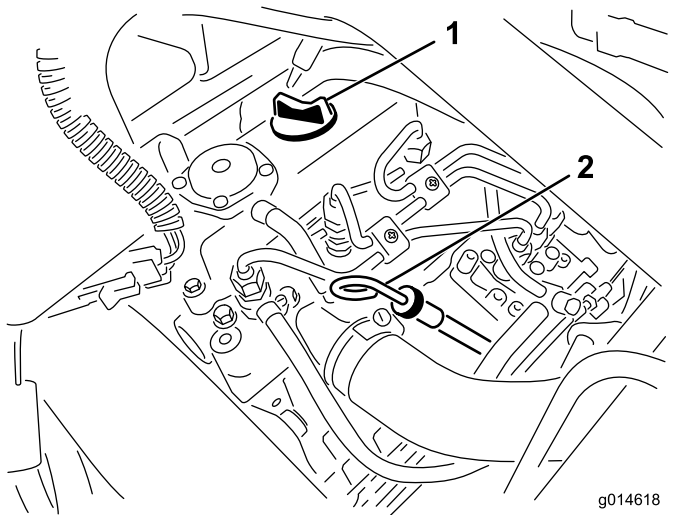

Figure 35
- Remove the dipstick and wipe it with a clean rag (Figure 35).